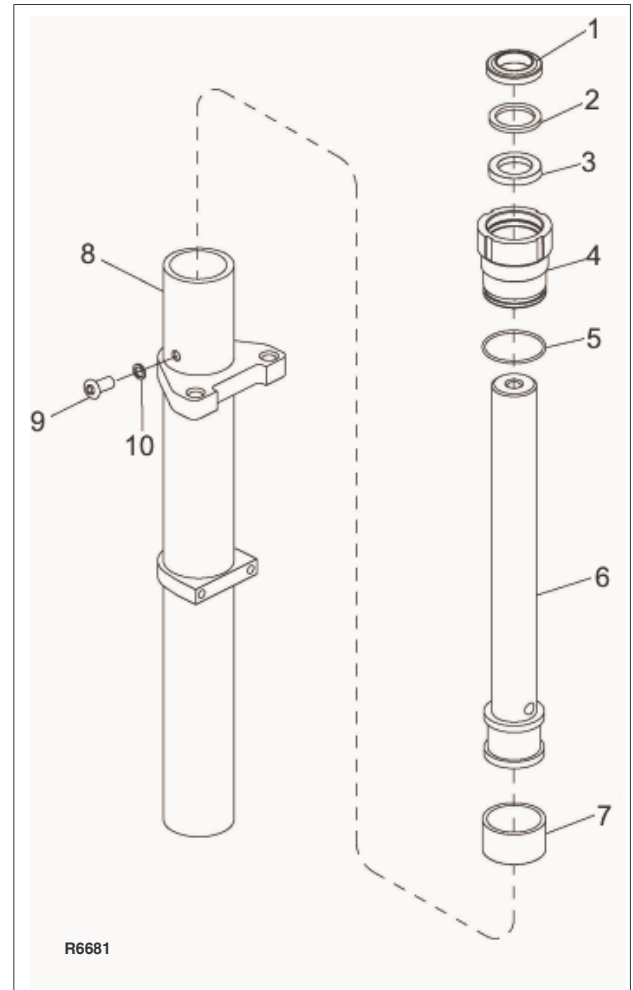

Figure 9-7 Free Lift Cylinder (TRIMAST)
2. Remove gland nut (4, Figure 9-7).
3. Remove wiper (1), inner collar (2), seal (3) and O-ring (5) from gland nut (4).
4. Pull out piston rod (6).
5. Remove guide ring (7) from piston rod (6).
7. Install guide ring (7) on piston rod (6).
8. Insert rod (6) in cylinder tube (8).
9. Install O-ring (5), seal (3), inner collar (2) and wiper (1) on gland nut (4).
10. Install gland nut (4) in cylinder tube (8).